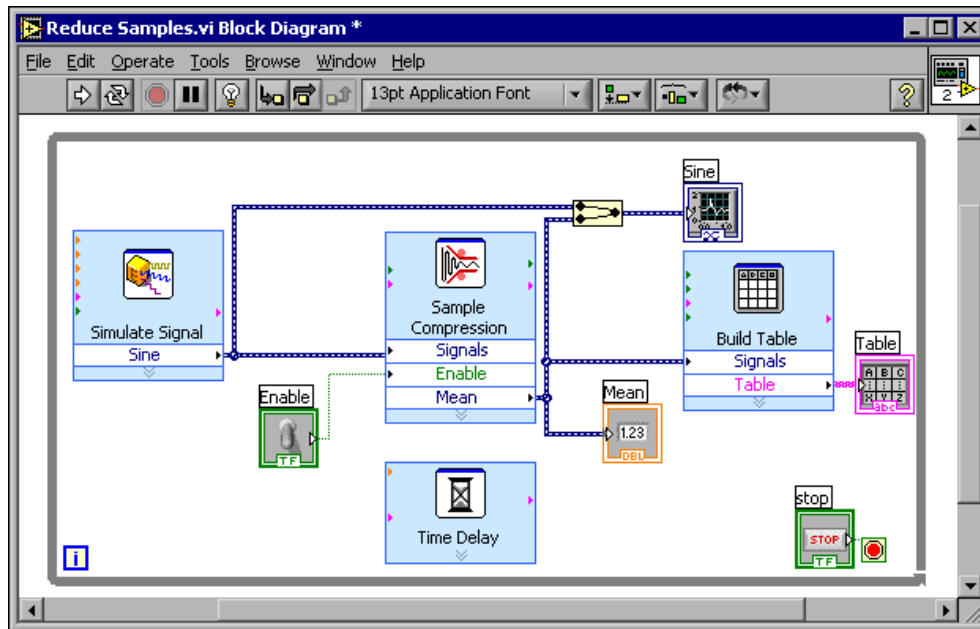

Figure 1.31
5. Using the **Wiring** tool, wire the **Mean** terminal of the **Sample Compression Express VI** to the **Signals** input of the **Build Table Express VI**. The block diagram should appear similar to Figure 1.31.